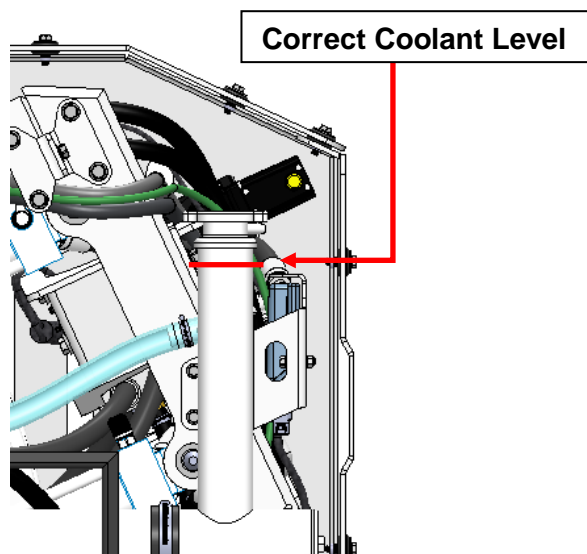

FIGURE 3 – SEAKEEPER 26 COOLANT LEVEL
- 3) Remove pressure cap on top of reservoir. Pour mixture in until level reaches height shown in Figure 3. Filling reservoir above this level will not cause any damage but coolant may be expelled from pressure relief port below cap due to normal thermal expansion of coolant.
- Recheck glycol level with fluid circulating in coolant circuit. Sight down inside reservoir and check that coolant level is above upper port on reservoir as shown in Figure 3. Replace cap.